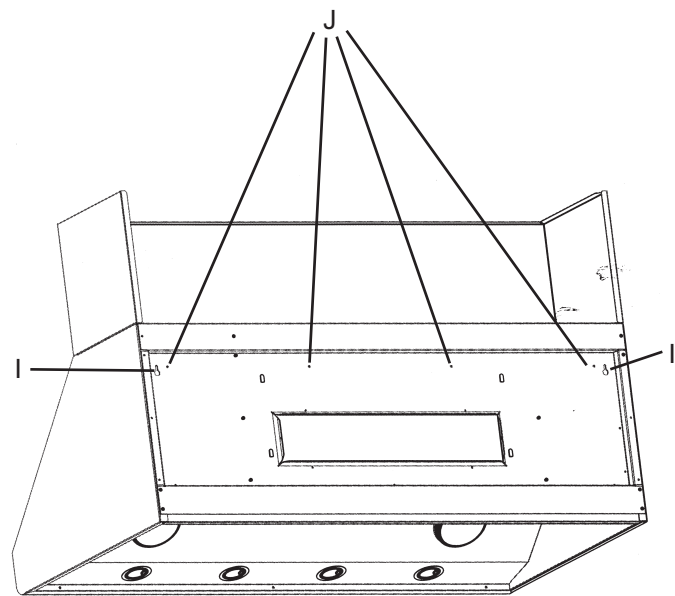

Figure 9: Location of Screw Keyholes
13. Rest the hood on the screws in the wood bracket. Use the keyholes labeled "I" in Figure 9. Make sure the wood bracket fits into the recess on the back of the hood.
16. From inside the hood, drive screws (#8 x 5/8") through holes in hood into wooden bracket. See holes labeled "J" in Figure 9.